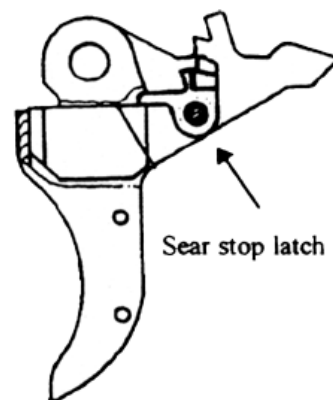

Figure 38
- Place *sear release latch* (9) onto upper rear of *trigger* (8) with largest lip forward and smaller lips up (Fig. 38).
- Start the *sear release latch axle* (11) through from the left side of the *trigger* with the *spring notch* on the left side.
- Once the *axle* is through the left side of the *trigger* and the left side of the *sear release latch*, place the *sear release latch spring* (10) with the short end up and the long end down, aligning the coil of the *spring* with the *sear release latch axle*.